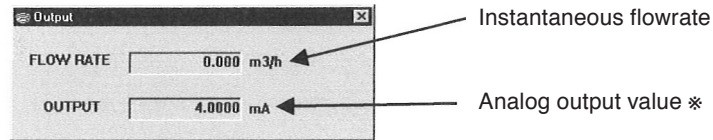

Fig.17
- ① Click on "View (V)" at top-level menu of the screen, select "Output (O)" and click on again.
- ② A message box for output as shown in Fig. 17 appears.